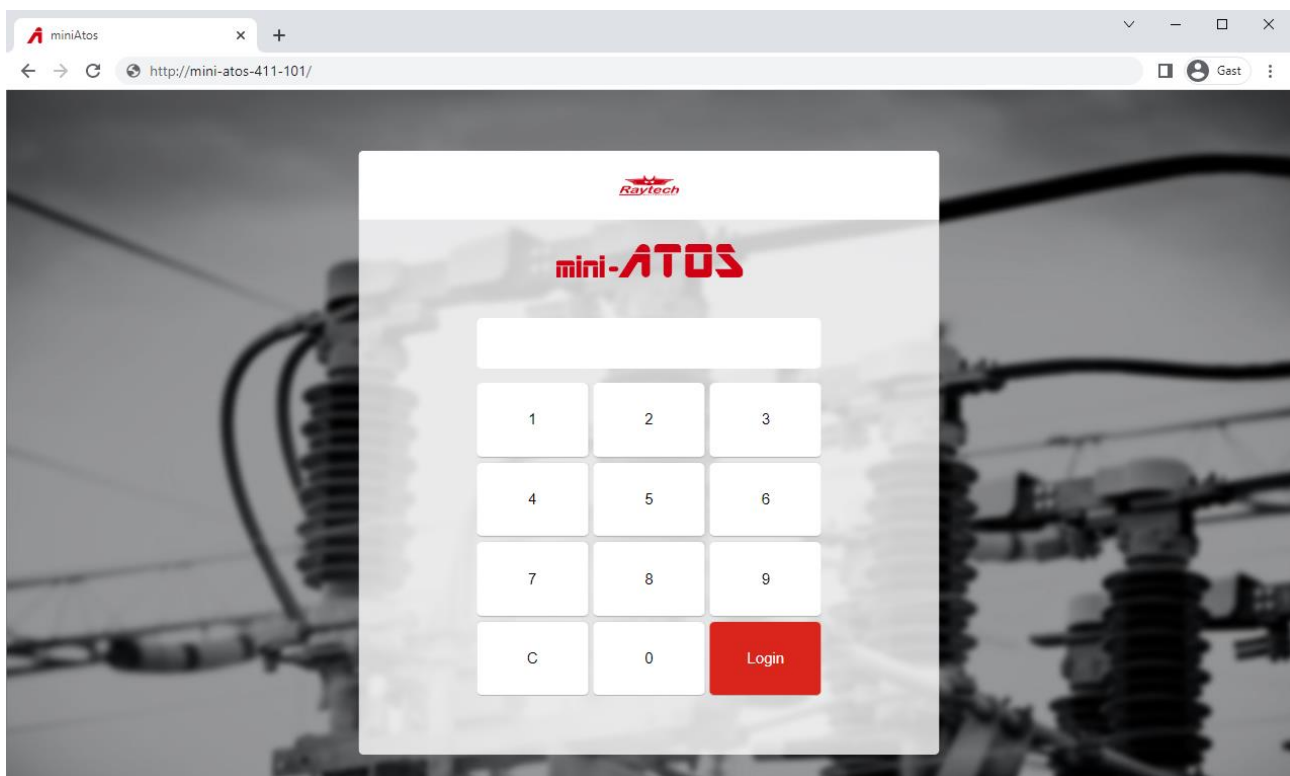

Figure 72: Remote access login page
- 6- Enter the access key and confirm to access the software (Figure 72)